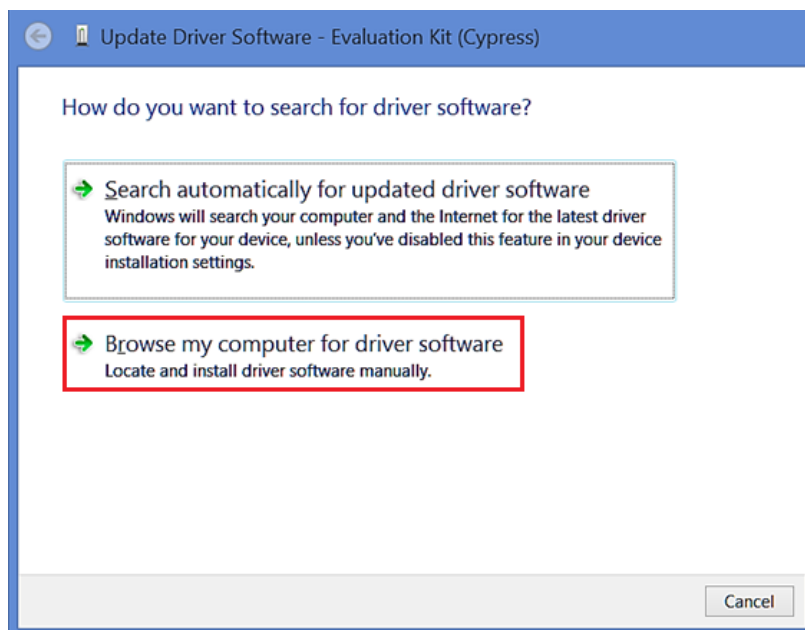

Figure 15. Update Driver Software - 1
- Right-click the "Evaluation Kit (Cypress)" item, and choose "Update Driver Software ...". A new window should open. Select "Browse my computer for driver software" (Figure 15)